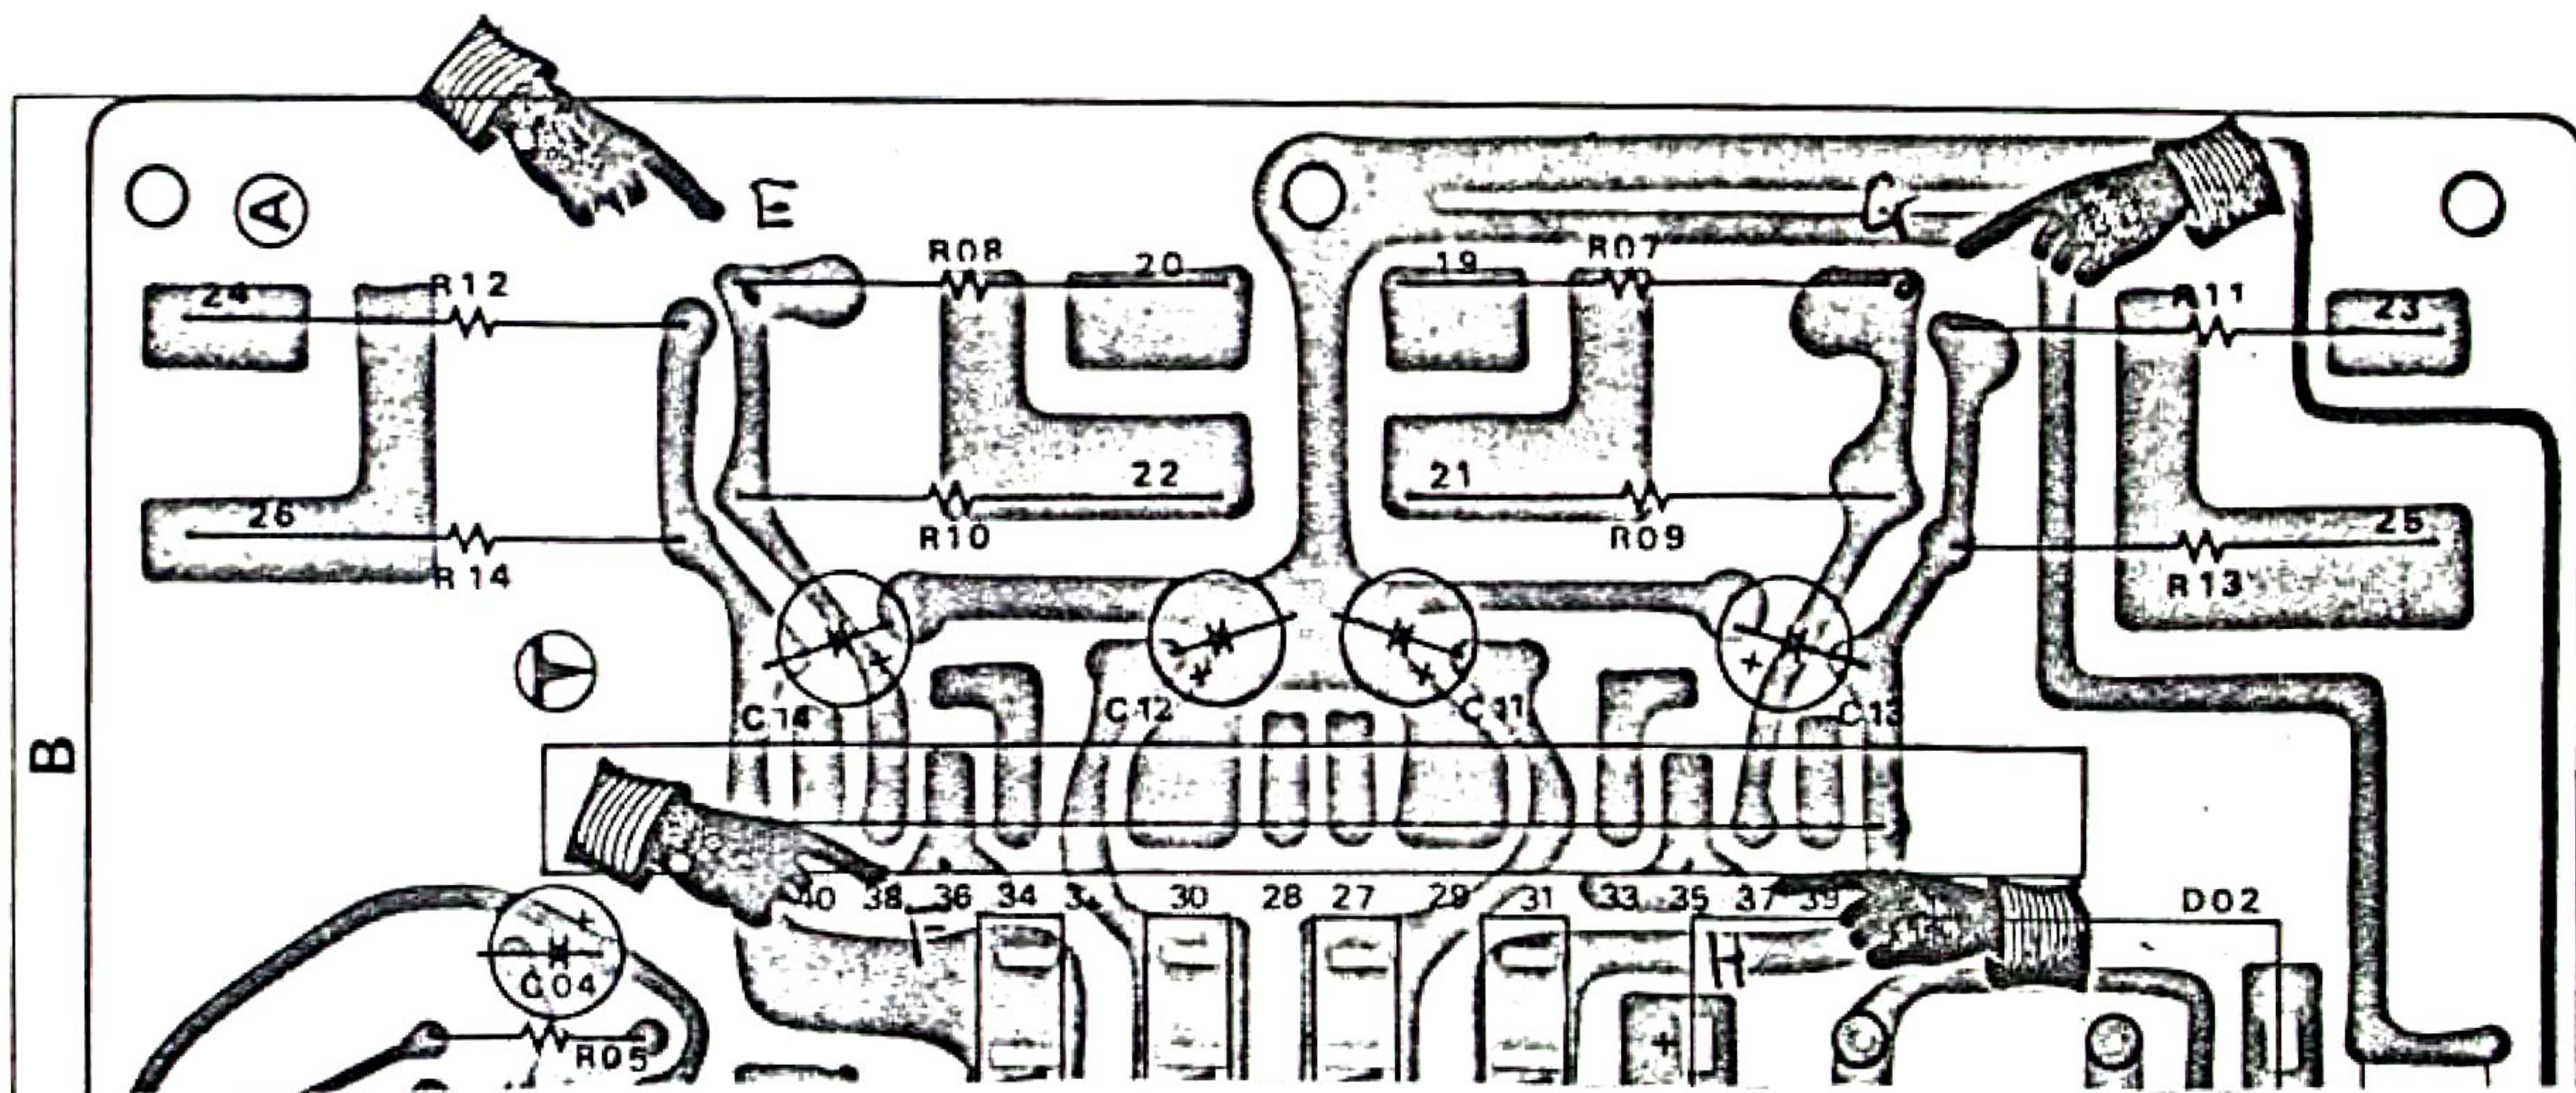

FIG. 4
- It is also possible that these connections are made, like shown on fig. 4, from point E to point F and from point G to H. Even so these jumpers should be removed.